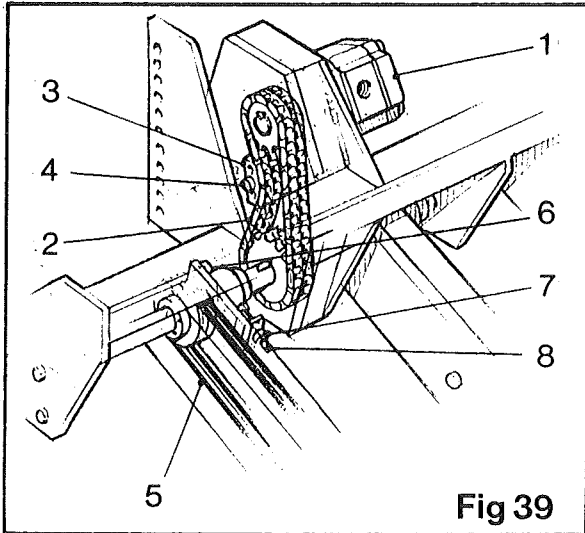

Fig 39
The drive for the skewbar unit is supplied by a hydraulic motor (item 1 fig 39), from this motor the drive is transferred to the drive shaft by a duplex chain (item 2 fig 39). This chain is tensioned by a nylon block (item 3 fig 39), to tension the chain, slacken the bolt (item 4 fig 39) and slide the block to give the required tension and retighten.
Each skewbar is driven by two vee belts (item 5 fig 39). The tension of the belts can be adjusted by slackening the four securing bolts (item 6 fig 39) and the locknut (item 7 fig 39), turn the adjuster screw (item 8 fig 39) to obtain the correct amount of tension and retighten the bolts.